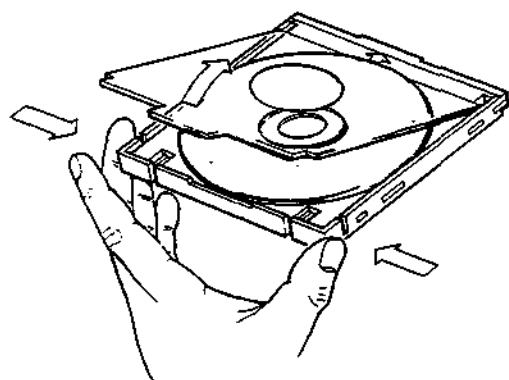

Figure 8. CD-ROM Removal (Early Systems)
5. Open the caddy and remove the CD. Place the CD into its storage sleeve and store in the base station drawer (Fig 8).